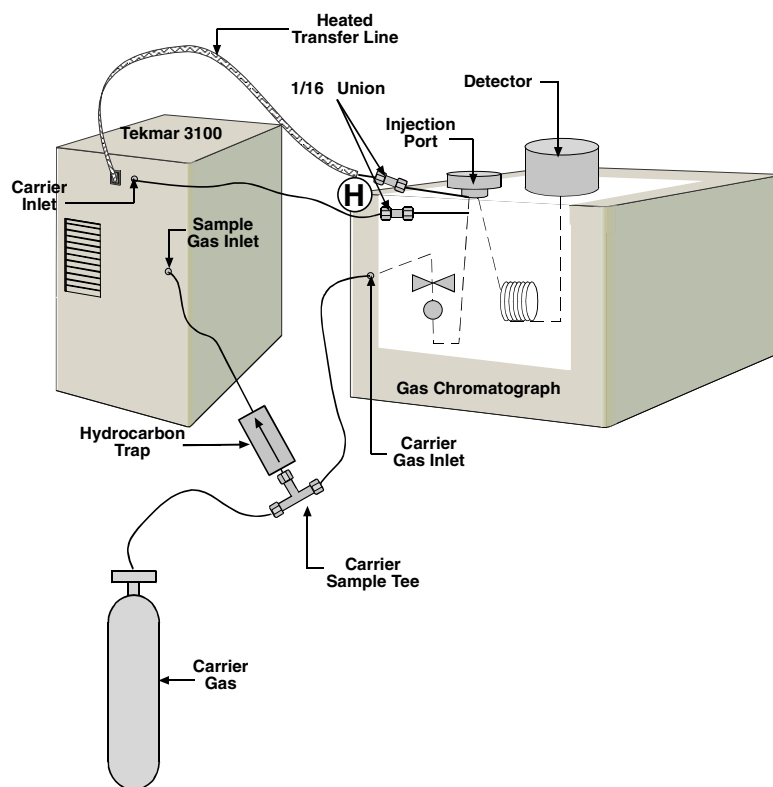

Figure 3-3 GC-Regulated Carrier Gas Connections
When you make the connections illustrated in Figure 3-3, the GC supplies and controls carrier gas flow to the 3100. Using this configuration keeps the GC injection port free for direct sample injections. You cannot use a Cryofocusing Module with the configuration shown in Figure 3-3.
3. Open the line at a point one or two inches from the injector housing (point H in Figure 3-3). If a union connects tubing from the carrier gas supply to the stainless steel injector port inlet, disconnect the union. If there is no union, cut the line.